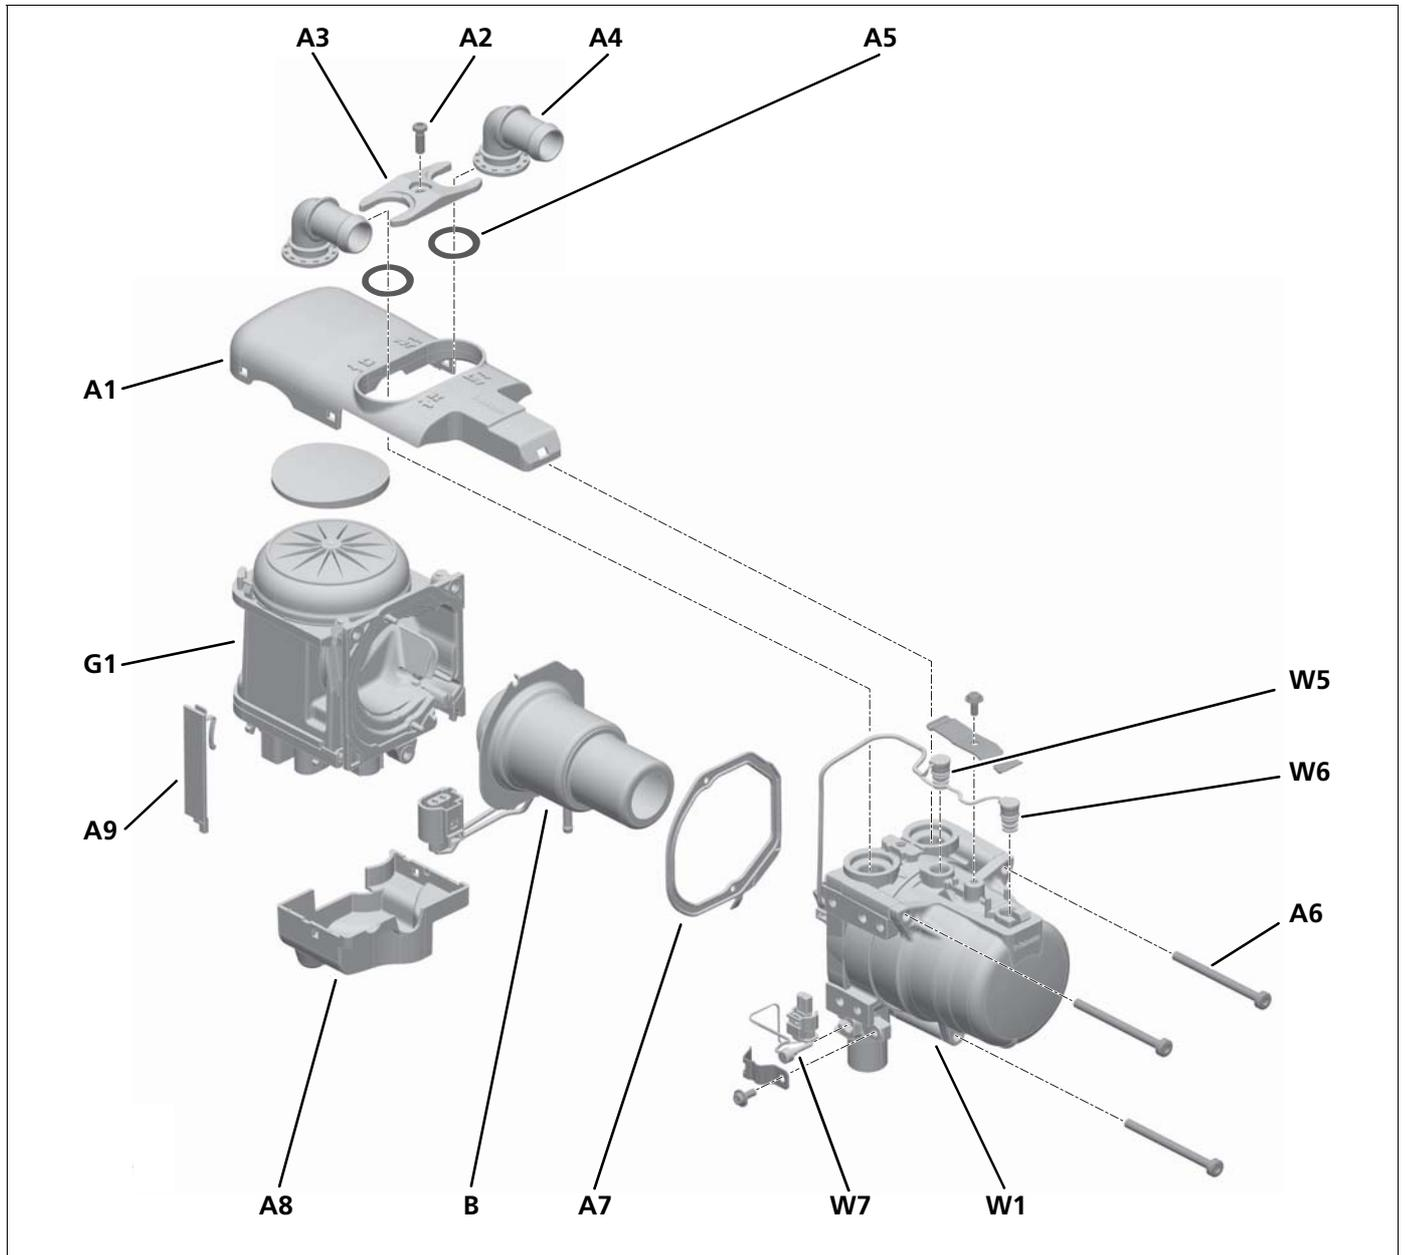

Fig. 19 Component diagram heater Thermo Pro 50 Eco
1. Undo screw (A2, Fig. 19) and remove water connection piece (A4) with retainer plate (A3) and O-ring (A5).
9. Remove burner unit (B), see section 9.2.1.